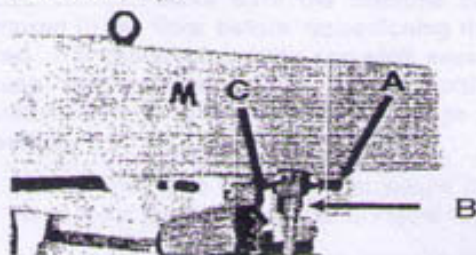

Figure 22
1. Loosen the two bolts (A, Fig. 22) that lock the ram to its ways.
2. Using a 14mm wrench, turn the bolt (B, Fig. 22) to move the arm on its ways.
3. When the desired position is reached, lock the bolts (A, Fig. 22) securely.
1. Loosen four turret lock bolts (C, Fig. 22) that clamp the ram to the top of the base. 1/2 turn should be sufficient to allow the ram to move.
3. Tighten the four ram lock bolts (C, Fig. 22).